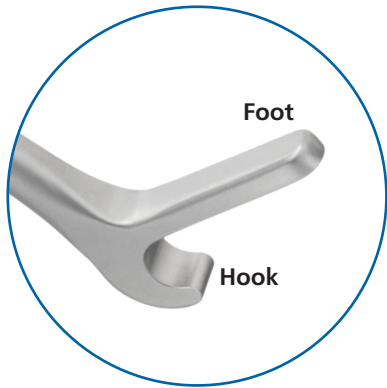

Fig. 8
**Posterior Vertebral Body Punches (42-2111, 42-2112, 42-2113, and 42-2114)** are designed with a foot that fits over the posterior wall and a hook that grips the bony edge. **(Fig. 8)** These design features help prevent sliding of the instrument and help direct forces anterior and medial to the bony elements. They are available in varying lengths of 20 and 25mm and widths of 5 and 10mm. It is recommended to choose a **Posterior Vertebral Body Punch** that provides maximum surface area contact with the vertebral body wall.